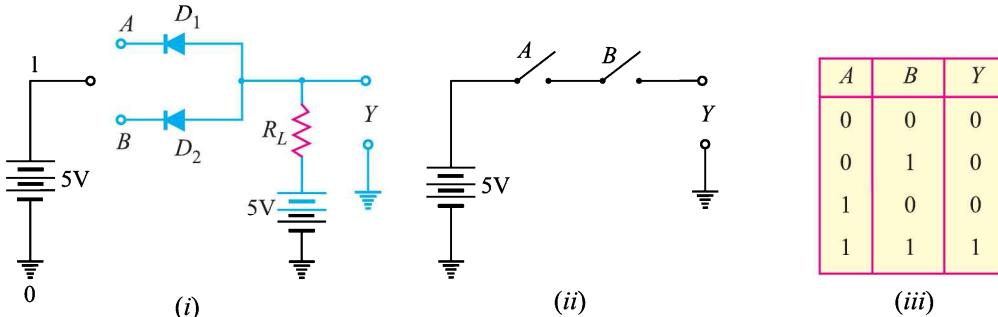

Fig. 26.8
AND gate operation. Fig. 26.8 (i) shows one way to build a 2-input AND gate while *Fig. 26.8 (ii) shows its simplified schematic diagram. There are only four input-output possibilities.
(i) When both A and B are connected to ground, both the diodes (D_1 and D_2) are forward biased and hence they conduct current. Consequently, the two diodes are grounded and output voltage is zero. In terms of binary, when $A = 0$ and $B = 0$, then $Y = 0$ as shown in truth table in Fig. 26.8 (iii).
- * Note that two switches used to represent the OR function were connected in parallel. If the switches are connected in series [See Fig. 26.8 (ii)], AND function is obtained. The output is high if both the switches are closed. The output will be low if either switch is open.